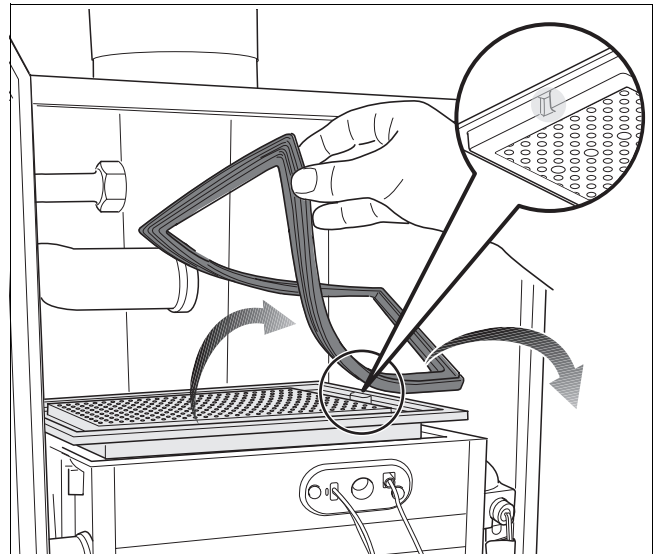

fig. 12 Re-installing the burner plate
- Refit all parts in reverse order. When re-installing the burner plate, make sure that the notch is on the right-hand side (fig. 12).